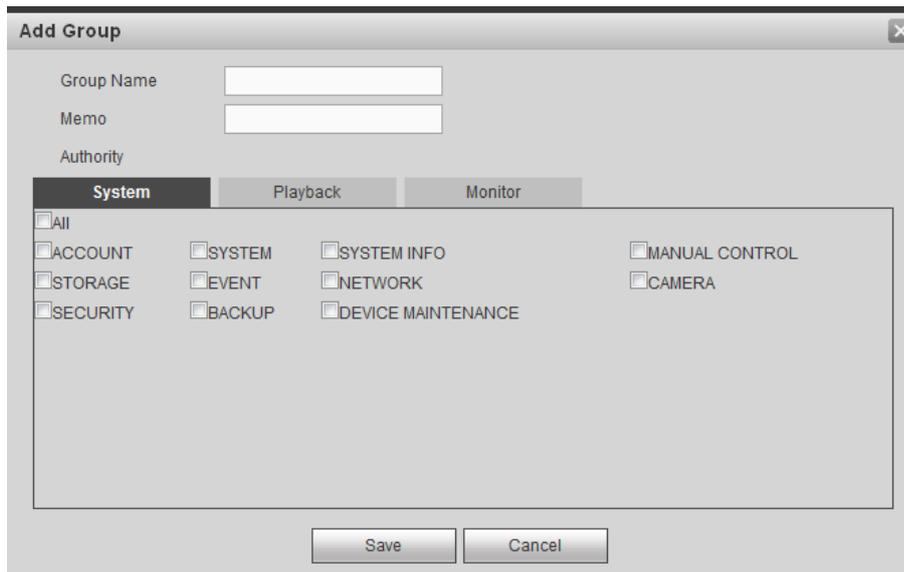

Figure 3-135
Step 1 Click Add group button. Enter add group interface. See Figure 3-135.